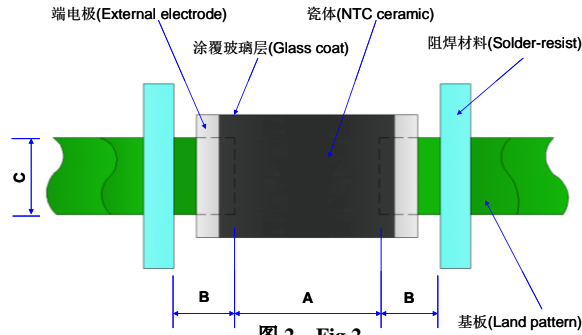

图 2 Fig.2
- PCB 焊盘：见图 2 和表 1
- Recommended PCB pattern for reflow soldering: See Fig.2 and Table 1